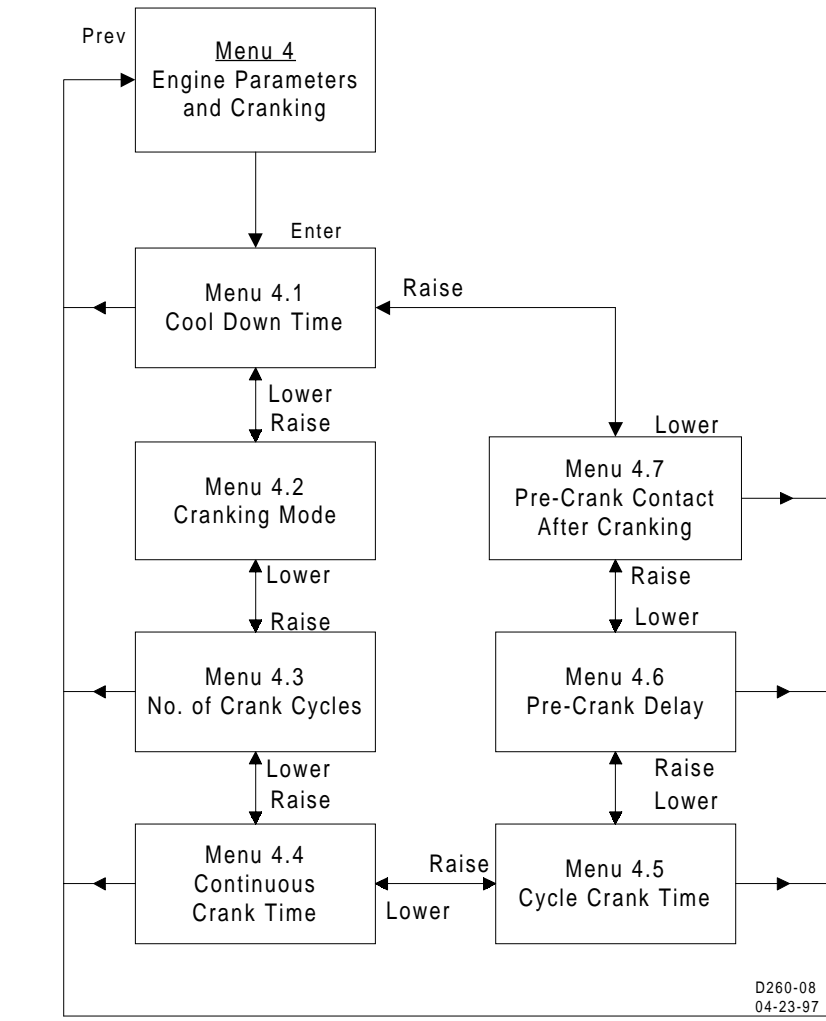

Figure 3-10. Menu 4
*Menu 4.* Menu 4 (Figure 3-10) displays engine parameters and cranking. Pressing **Select/Enter** from menu 4 begins menu 4.1.